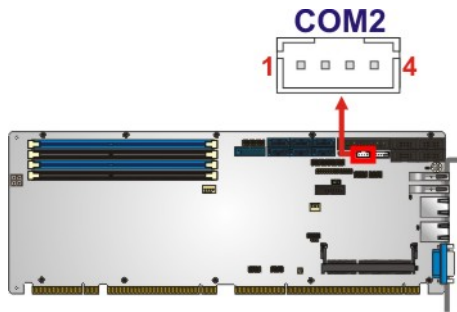

Figure 3-21: RS-422/485 Connector Location
- CN Location:** See **Figure 3-21**